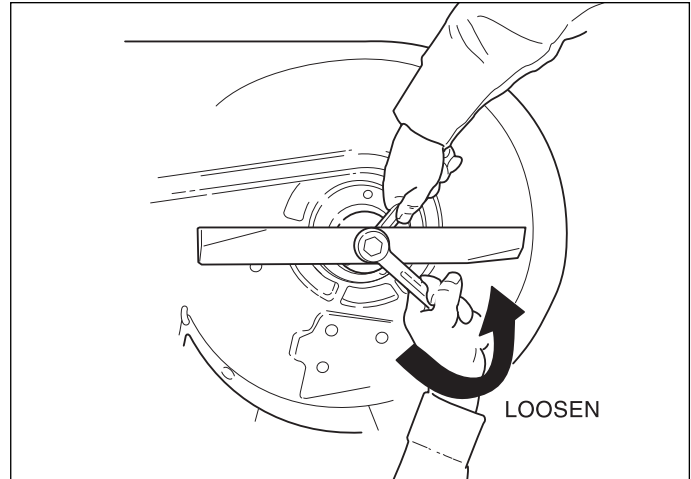

Figure 7. Removing the Blade
- To remove blade for sharpening, use a 1" wrench on the flats of the spindle shaft while removing the blade mounting bolt with a 15/16" wrench (Figure 7).